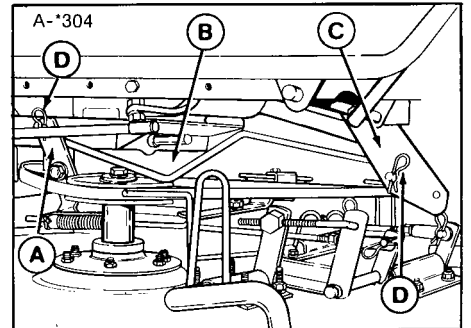

Figure 7. Installing PTO Rod
- Insert one end of the PTO rod (B, figure 7) in the mower PTO arm (A) and the other end in the tractor PTO arm (C) in hole marked "MOW". The rod must be inserted into the holes from the right-hand side as shown. Refer to figure 7 to make sure the rod is correctly positioned. Install the spring clips (D).